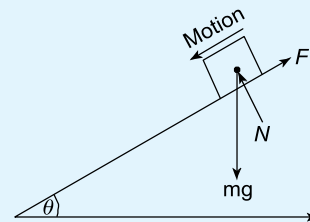

Figure 17.14
3. An experiment is required to obtain the static value of μ ; this is achieved by increasing the value of θ until the mass just moves down the plane, as shown in Figure 17.14. If the experimentally obtained value for θ was 22.5° , what is the value of μ ?